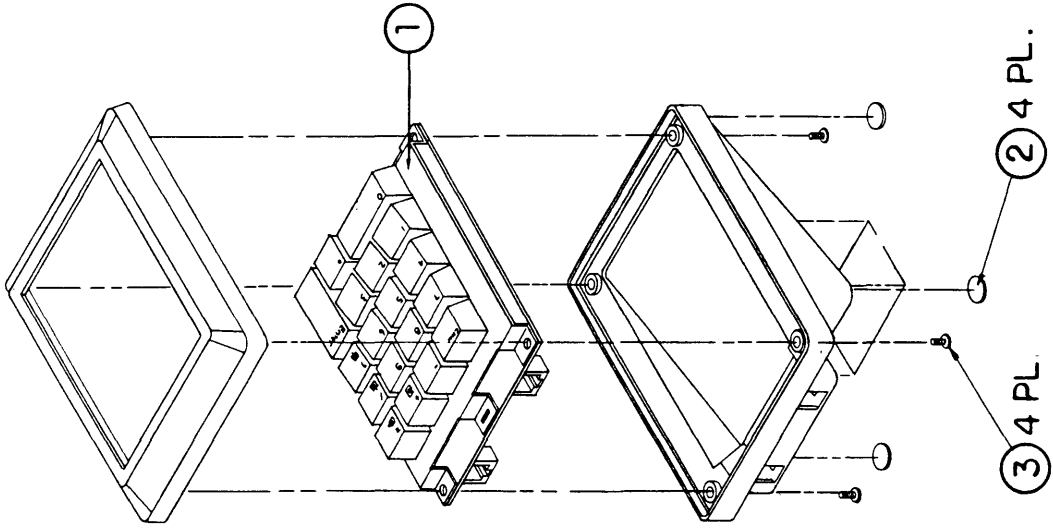

FIGURE 5
□ **MACINTOSH – NUMERIC KEYPAD ASSEMBLY (Figure 5)**